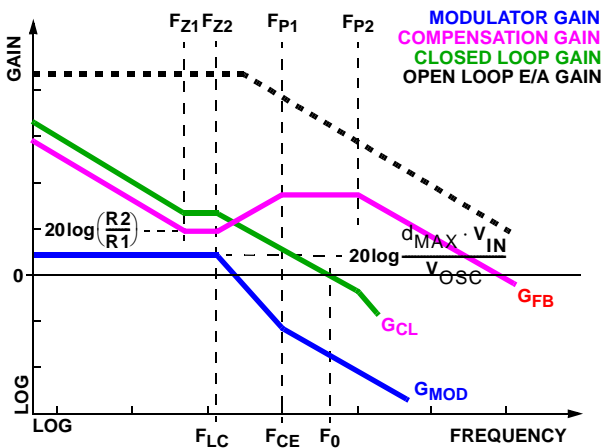

FIGURE 10. ASYMPTOTIC BODE PLOT OF CONVERTER GAIN
Figure 10 shows an asymptotic plot of the DC/DC converter's gain vs. frequency. The actual Modulator Gain has a high gain peak dependent on the quality factor (Q) of the output filter, which is not shown. Using the above guidelines should yield a compensation gain similar to the curve plotted. The open loop error amplifier gain bounds the compensation gain. Check the compensation gain at F_{P2} against the capabilities of the error amplifier. The closed loop gain, G_{CL} , is constructed on the log-log graph of Figure 10 by adding the modulator gain, G_{MOD} (in dB), to the feedback compensation gain, G_{FB} (in dB). This is equivalent to multiplying the modulator transfer function and the compensation transfer function and then plotting the resulting gain.